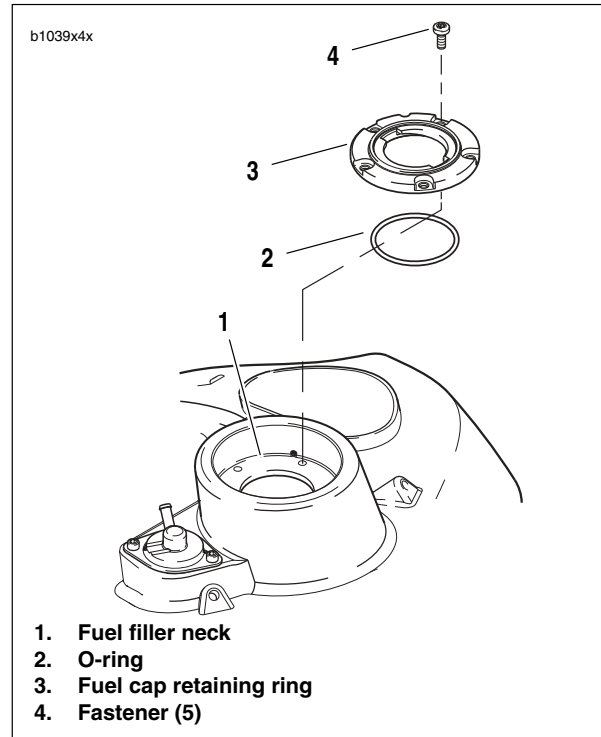

Figure 4-96. Fuel Cap Retaining Ring
3. See Figure 4-96. Remove fasteners (4) securing fuel cap retaining ring (3) to fuel filler neck (1).
4. Remove fuel cap retaining ring and o-ring (2). Discard o-ring.